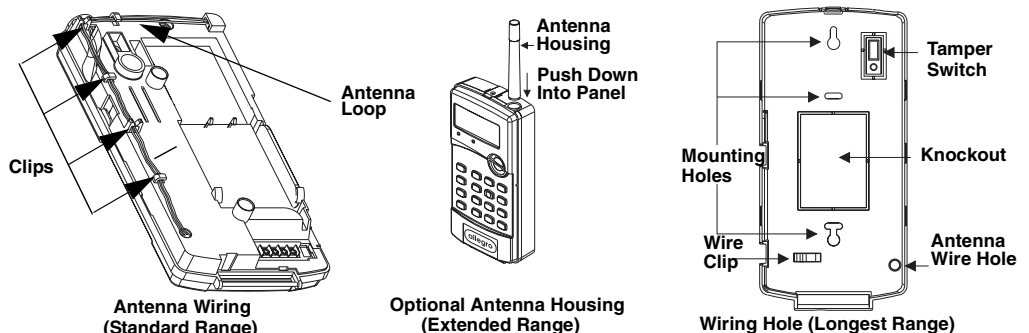

Figure 2. Antenna configurations
- a. Push the antenna housing down into the top right hole of the panel until it snaps into place (see Figure 2).
- a. When you mark the back mounting plate's two mounting holes, also mark where the antenna hole is (see Figure 2 for antenna wire hole location).
- c. Remove the antenna loop (see Figure 2) from the panel cabinet clips and feed through the antenna hole and down into the wall.